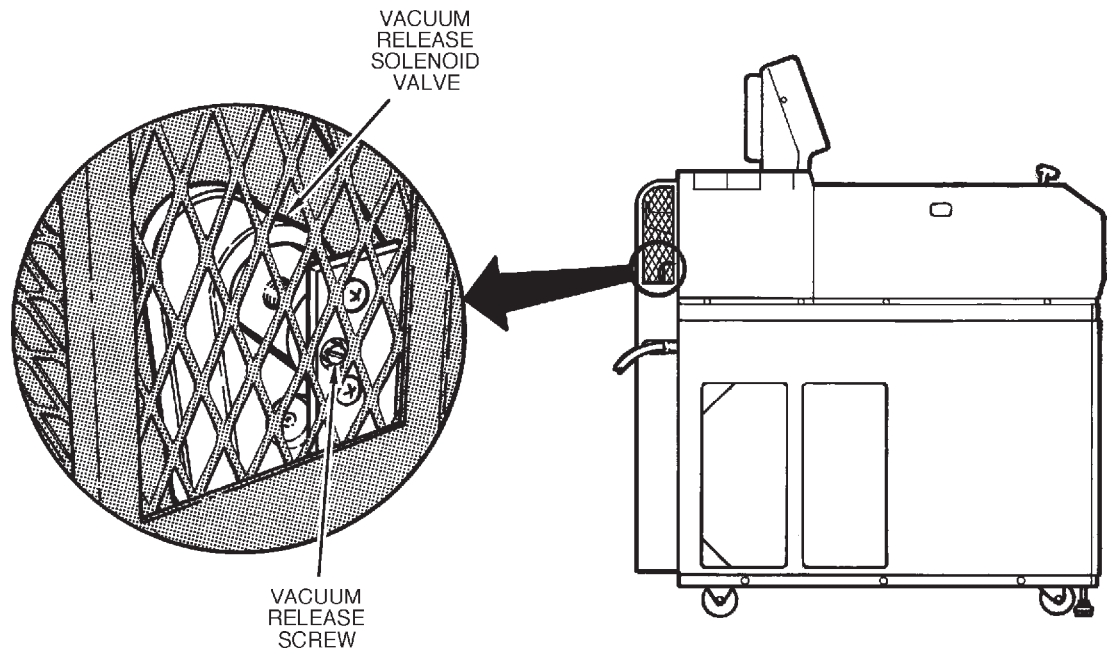

Figure 7-4. Vacuum Release Solenoid Valve Location
3. Locate the vacuum release solenoid valve (figure 7-4). Insert a screw driver through the grille on the left side of the back panel, and turn the vacuum release screw fully clockwise (approximately 4 to 5 turns). Air will begin to enter the chamber.